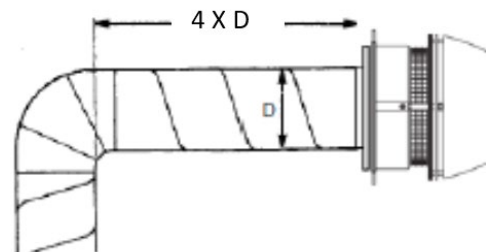

FIGURE 38
7. To achieve optimal performance and energy consumption for the RS Fan, the duct must be installed as shown below and the distances observed. From the last elbow to the termination point the distance must be 4 times the diameter of the flue. For example, if you use 12in flue, the distance from the last elbow to the fan termination point should be 48 inches ($12 \times 4 = 48\text{in}$) (**Figure 38**).